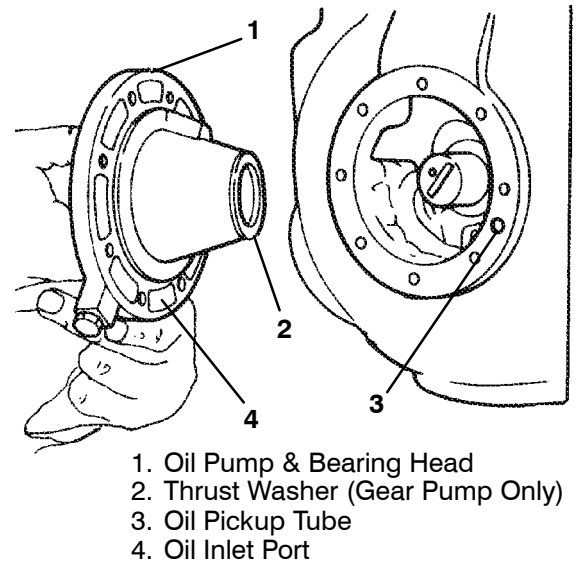

Figure 4-7. Gear Oil Pump and Bearing Head
1. Remove eight capscrews and remove oil pump bearing head assembly, gasket and thrust washer. (See Figure 4-7.)
Gear Oil Pump (See Figure 4-7):